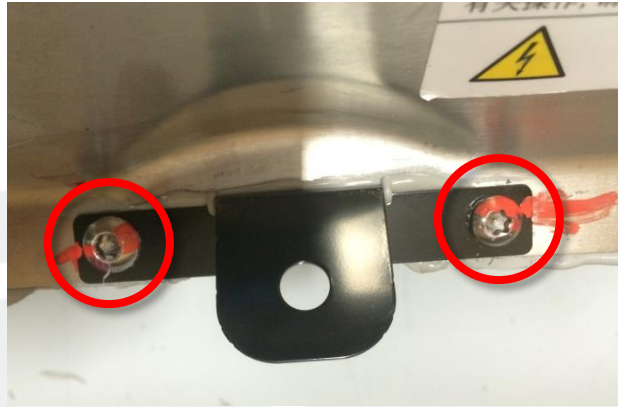

Figure 7
- Place the new aeroshield support tab in place and install 2 new screws to secure it to the HV Battery (torque 4.5 Nm) (Figure 7). Mark each fastener with a paint pen as it is torqued.